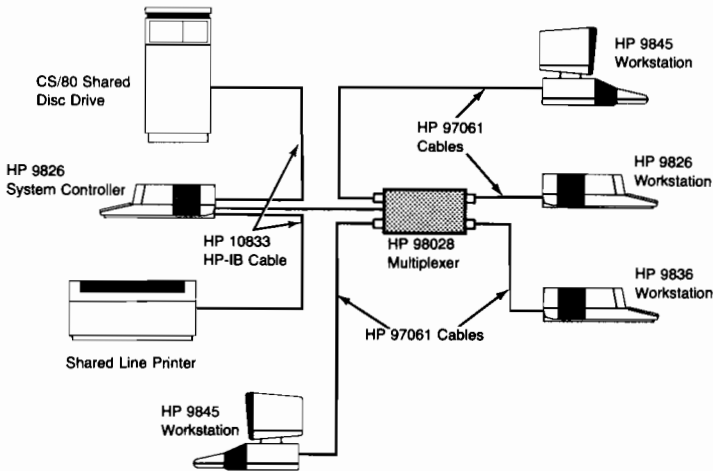

Figure 3-4. Single Controller and Four Workstations
4. Single controller systems. Figure 3-4 is an example of a single controller with four workstations. In this example, all work-stations have unlimited access to the controller.